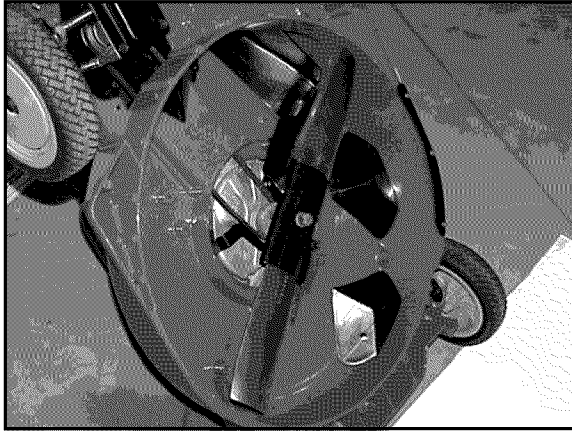

Figure 9
1. Install the blade onto the spindle or blade driver. If the blade has curved tips (sails), they should be pointing towards the mower housing (Figure 9). If the bolt or nut uses a nylon patch or similar lock feature, it should be replaced every third time it has been removed. The patch will wear out with use. If a lock washer is used, inspect it for damage and replace if warranted.